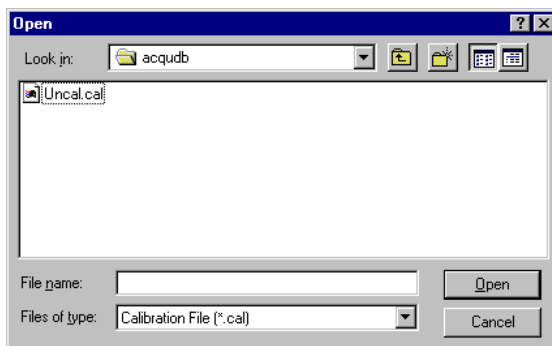

Figure 4-2 Open Dialog Box
3. Select **File > Open**. The Open dialog box appears (Figure 4-2).